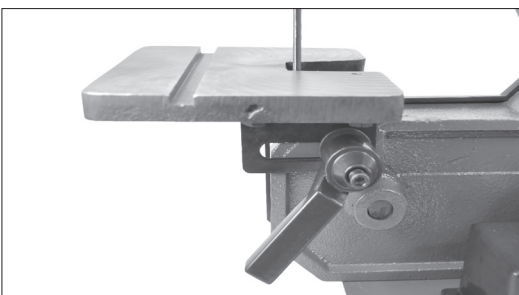

FIG. 13
28. Fasten the table in place. Thread the bolt portion of the locking adjustable handle through the bracket's slot and into the threaded hole of the sanding frame. FIG. 13.